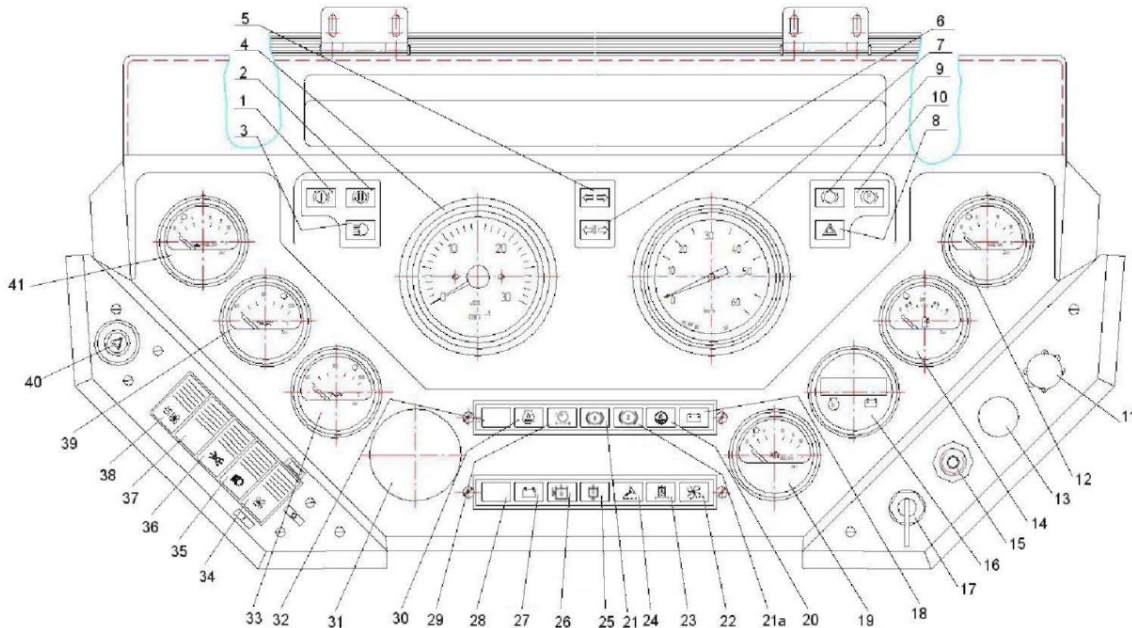

Fig. 1 Instrument panel of K-744R1 Standard tractor
in case of a sudden stop of the tractor on the surfaced portion of roadway, switch on the alarm signaling. Such switching on is performed by pressing the button, pos. 40, on the instrument panel (Fig. 1, 2, 3,4). In doing so, a reference lamp built into the switch button will get alight;